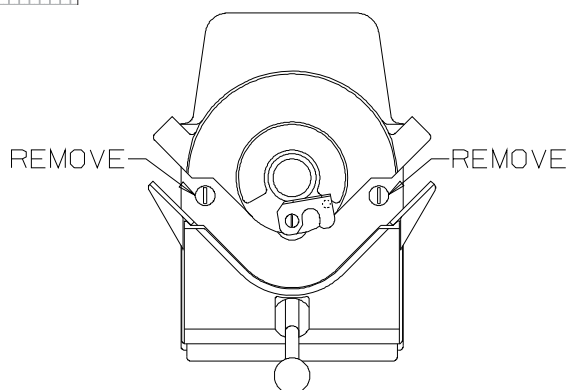

Figure 9-7
3. Remove the two screws located inside the hose cavity. See figure 9-7.